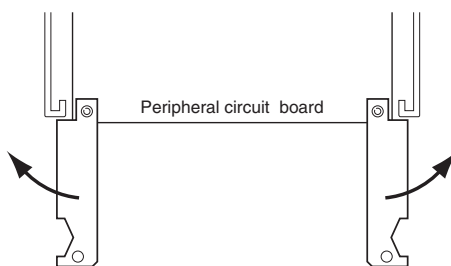

Figure 3.4.3 Dismounting Peripheral Circuit Board
- (3) When dismantling the peripheral circuit board, set the jig into position as shown in Figure 3.4.3. Using this jig as a lever, push it toward the outside of the board evenly on the left and right sides and pull the peripheral circuit board out of the S5U1C63000H6.
- (4) Mounting the front panel removed at the step (1) on the main case by pushing and turning two screws located at both side.